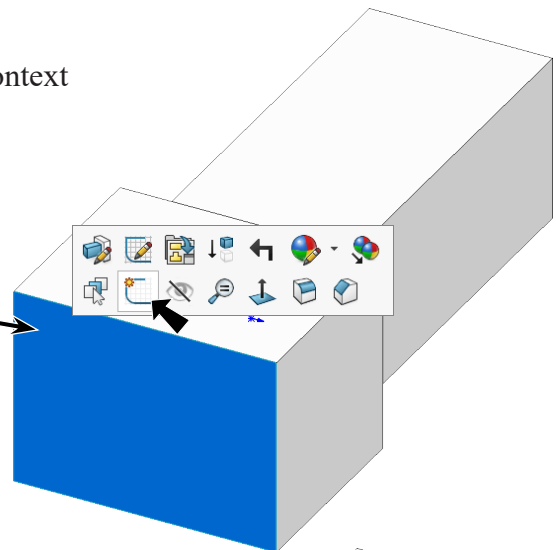

Fig. 9
Step 1. Click **front face** and click **Sketch**  on the context toolbar, **Fig. 9**.